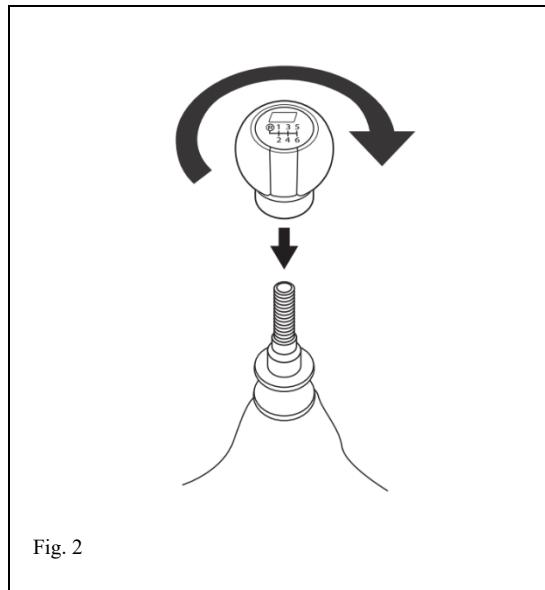

Fig. 2
- (a) Lower shift knob onto shaft, apply downward pressure and turn clockwise about 11 times until snug. (Fig. 2)
- (b) Adjust shift knob so the logo is aligned with front seats. (Fig.2)